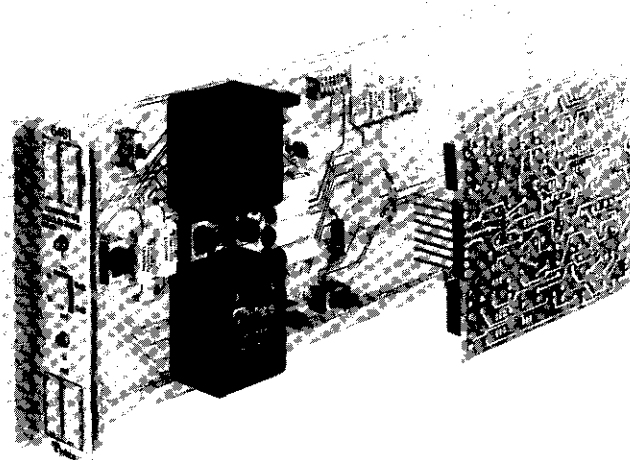

figure 1. 6461 Common Signaling Module
1.01 The 6461 Common Signaling Module (figure 1) provides transmission interface between a 4wire facility and 2wire or 4wire telephone station equipment or a PBX trunk. Both adjustable transmission attenuation and switch-selectable 4wire-to-2wire conversion are provided. As an alternative to 2wire-to-4wire conversion, the 6461 may be switch-optional to provide a 4wire-to-4wire pad/transformer interface. In addition, the 6461 accepts several types of optional signaling converter plug-on subassemblies that provide various modes of loop-to-E and M signaling conversion.